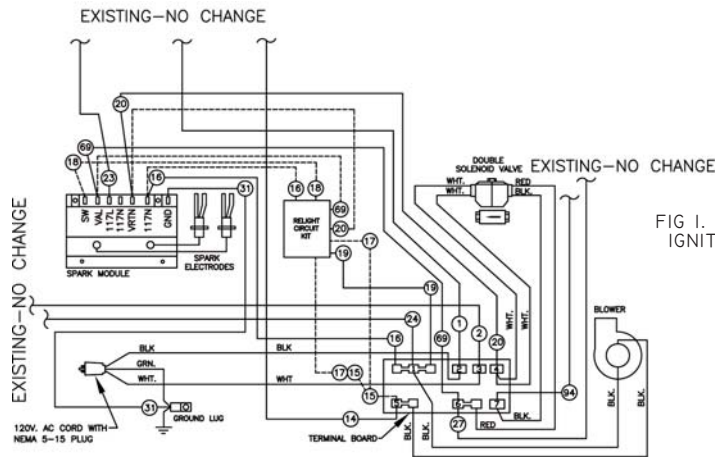
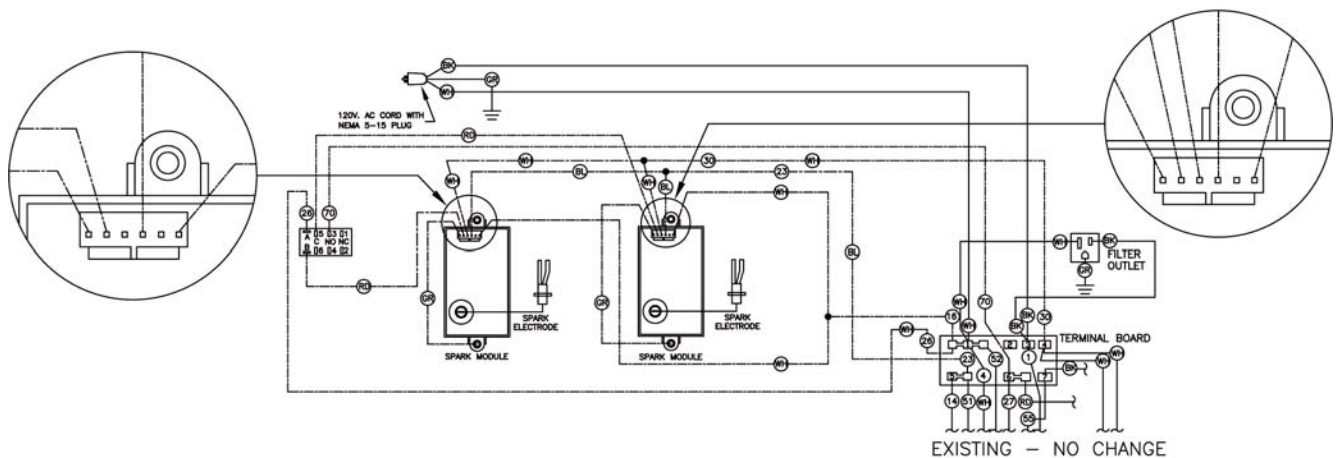

FIG 1. WIRING DIAGRAM FOR IFMS WITH DUAL-ELECTRODE SPARK IGNITION MODULE (PART # 019724) AND RELIGHT CIRCUIT KIT
FIG 3. WIRING DIAGRAM FOR IFMs WITH TWO SINGLE-ELECTRODE SPARK IGNITION MODULES (REPLACEMENT, PART # 037978) AND 120VAC DPDT RELAY (PART # 008088)
9. Make connections between the two modules by installing the supplied wire harness. Refer to Fig. 3 below for detailed wiring. Dashed lines in Fig. 3 show the removed and discarded wires. Dashed lines in Fig. 3 show the added/rewired connections. Solid lines show unaltered wiring in both Fig. 1 and 2.